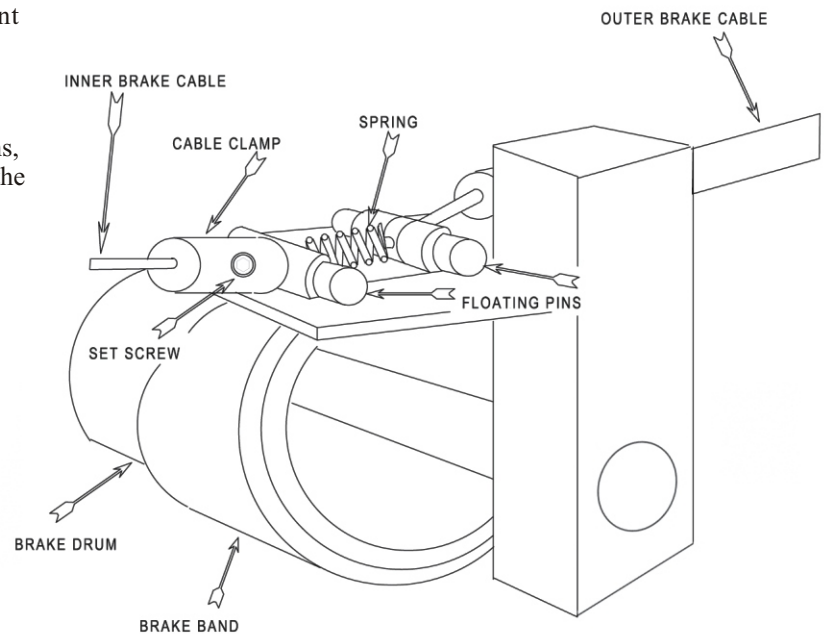

Fig.11 Brake assembly
- Loosen set screw in cable clamp (see Figure 11).
- Tighten set screw in cable clamp (see Figure 11).